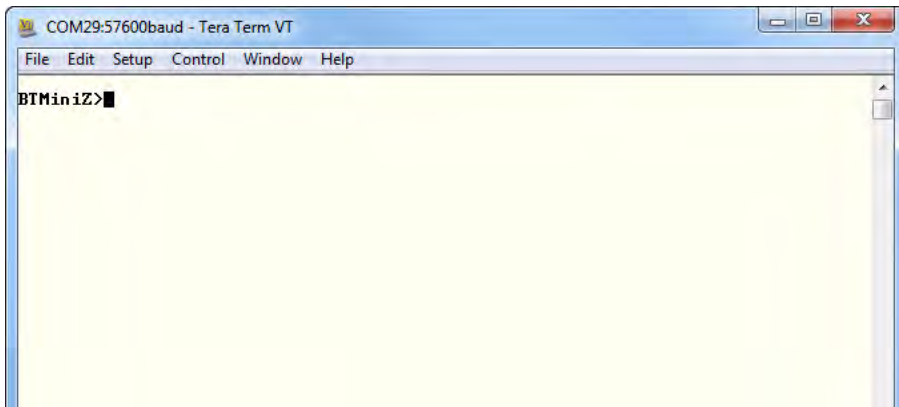

Figure 7. ZPAN Shell Prompt
1. Press the RESET button on one of the SSR boards. A `BTMiniZ>` prompt will appear, as shown in Figure 7. Repeat this step for the other SSR board.